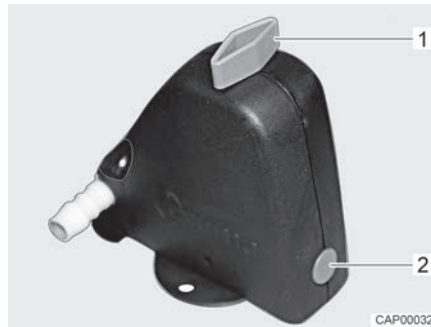
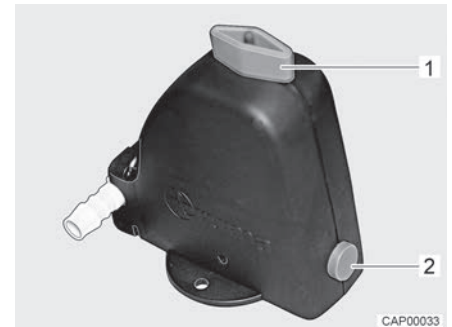

Fig. 114 Safety/drainage valve closed
Fig. 115 Safety/drainage valve open
- Open the safety/drainage valve (Fig. 114). To do this, turn the knob (Fig. 114,1) parallel to the safety/drainage valve. The push button (Fig. 114,2) jumps out. The open safety/drainage valve is shown in Fig. 115.